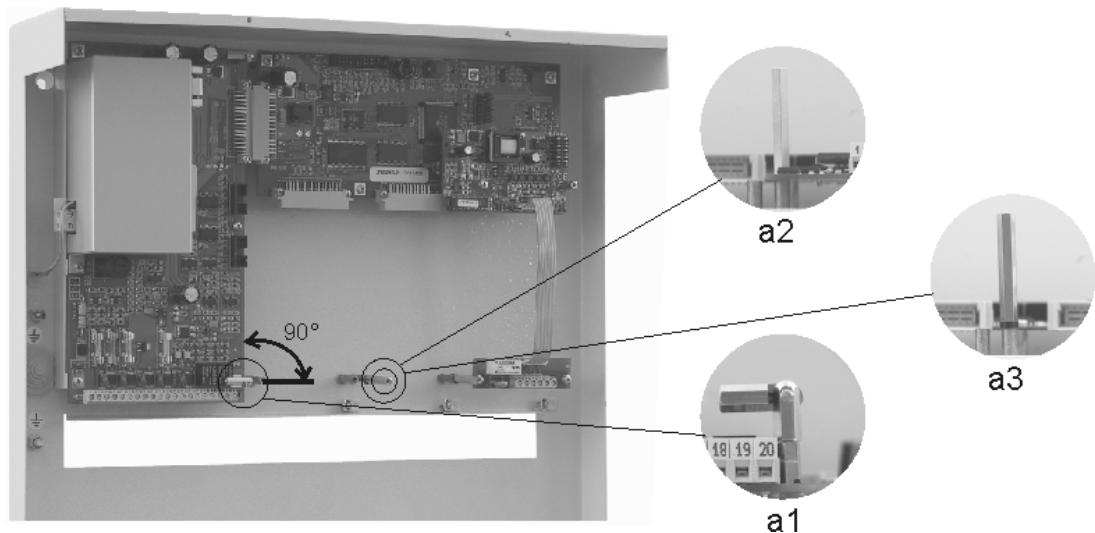
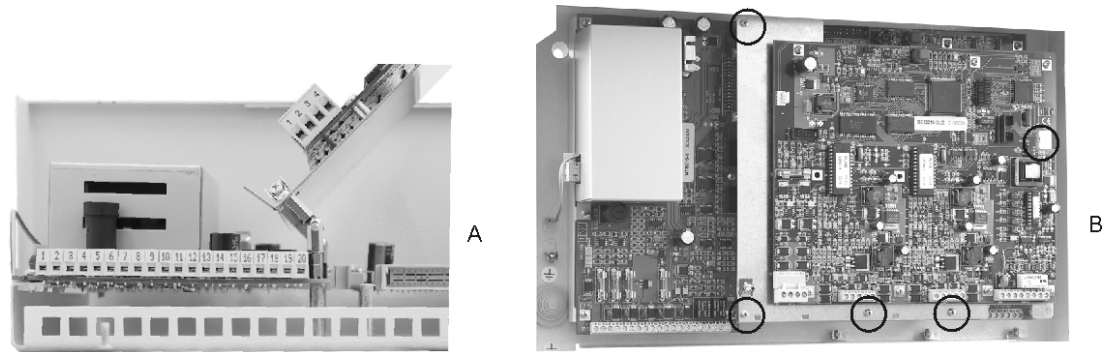

Figure 1: Mounting bolts for the installation of the BCnet Sectional Control Panel Extension BCE216-3LG in a BCnet Sectional Control Panel BC216-2 or BC216-3.
Figure 2: Installation of the BCnet Sectional Control Panel Extension BCE216-3LG
- ◆ Remove (and keep for later use) both M3 screws on the right upper and right lower edge of the Power Unit NTB216-1 and install the supplied hexagon swiveling bolts with the lengthening bolts underneath instead (figure 1/a1). You have to fasten the bolts so tight that
- ◆ Remove (and keep for later use) the remaining M3 screws, which have to be replaced with hexagon bolts (see figure 2/B), and install the supplied hexagon bolts instead. If no printed circuit board has been installed on the place where a hexagon bolt has to be screwed, you have to insert one of the supplied plastic washers underneath the hexagon bolt for level compensation (see figure 1/a3).
- ◆ Assemble the carrier plate together with the Loop Gateway Board with the M3 screws removed beforehand (figure 2/A) on both hexagon swiveling bolts (figure 1/a1). Check the smooth working of the swiveling construction; if necessary, slightly readjust the hexagon bolts.
- ◆ Fix the carrier plate with the remaining M3 screws according to figure 2/B.